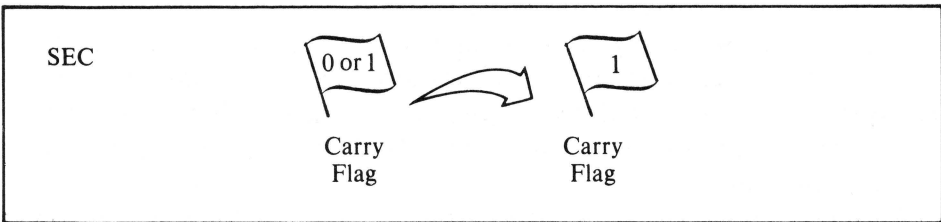

Figure 9-8. Set Carry Flag
- **SEC** — Sets the value of the Carry flag and makes it 1 (see Figure 9-8).